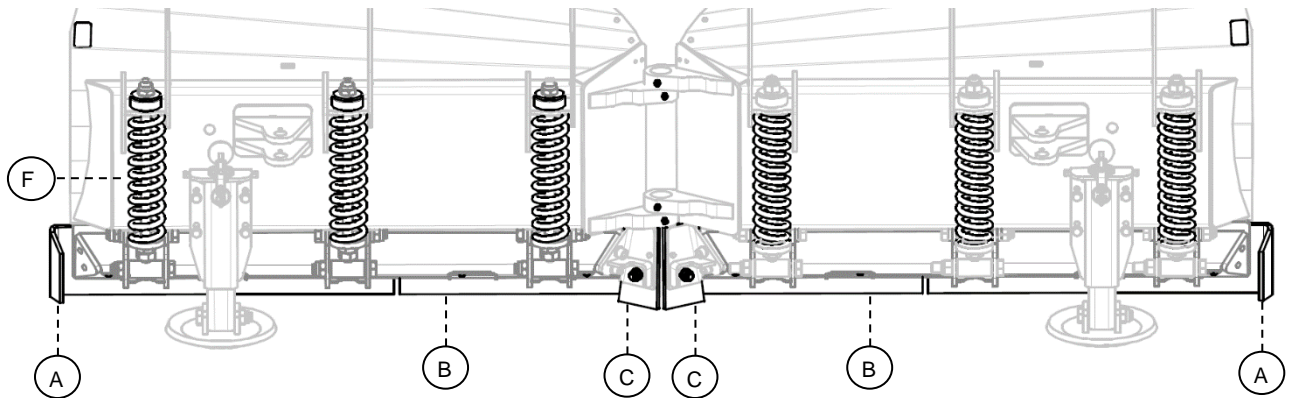

Figure 13
The VPX plough is equipped with the following cutting edges (A, B, C – see Figure 13). The cutting edges are sprung (F) and reversible. The outer cutting edges (a) have a bent edge which reduces the risk of becoming stuck in obstacles.